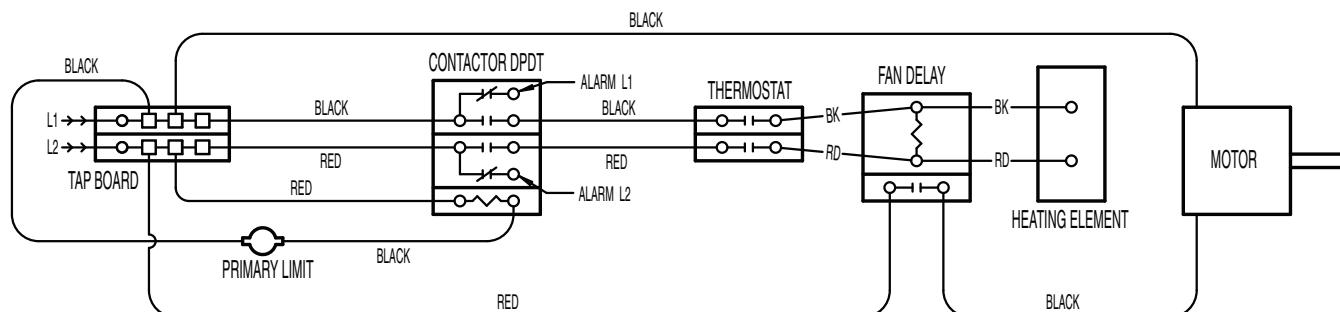

Figure 4 Wiring Diagram
- Connect the wire to the power terminal block located in the base of the heater (See Figures 4 and 5).
NOTE: This unit is provided with two 1/4" male quick connect terminals (see Wiring Diagram, Figure 4) marked as Alarm 1 and Alarm 2, to allow for an external alarm to be connected to the unit if desired. This option can provide notification if the heater overheats and cycles on the thermal over-temperature limit. Each terminal (Alarm 1 or Alarm 2) will provide 120 volts to ground. Connection to both Alarm 1 and Alarm 2 terminals will supply line voltage (208 or 240V) to the alarm.